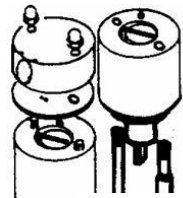

fig. 20
- With the socket wrench remove the hexagon nuts from Valve Head and Lift-off Valve Head and Steering Disk and pull-out the pump. (fig. 20)
- Turning lightly install the pump until it catches (locking pin!). It must sit on the Gasket Disc at the bottom of the container. Install Valve Head. (fig. 20, page 18)